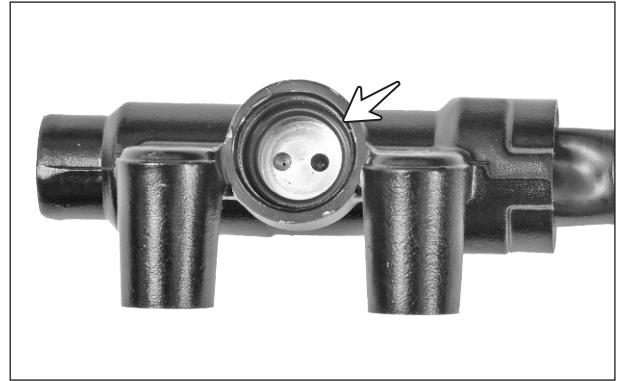

Fig. 6.127
- Take out the 'O' ring from the master cylinder assembly. (Fig. 6.127)